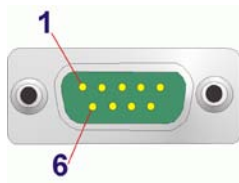

Figure 3-26: RS-232 Serial Port Connector
- CN Pinouts:** See **Figure 3-26** and **Table 3-24**